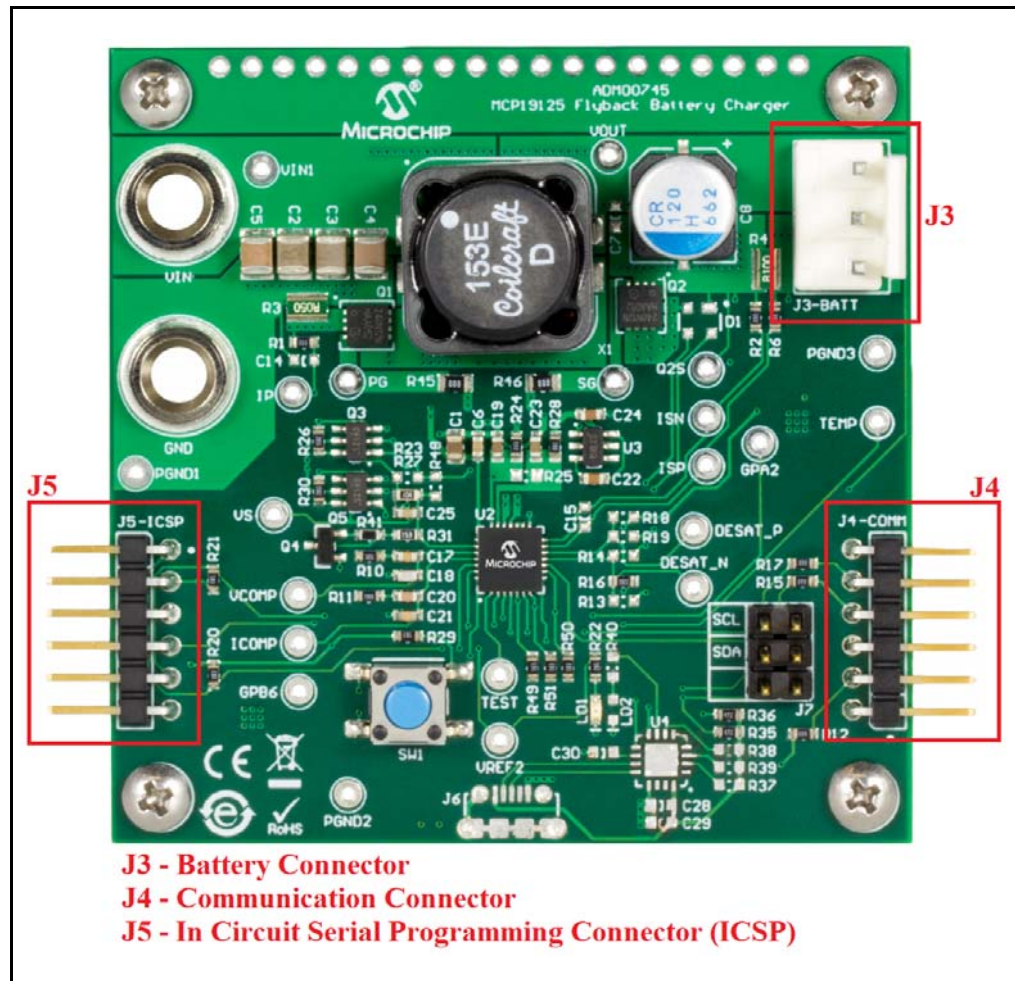

FIGURE 3-1: MCP19125 Flyback Battery Charger Evaluation Board with Power, Communication and Battery Connections.
3. Attach a PICKit Serial device to header J4 and connect to the computer through a USB. Ensure the PICKit Serial is powered and not in "Busy" status, as shown in Figure 3-1: